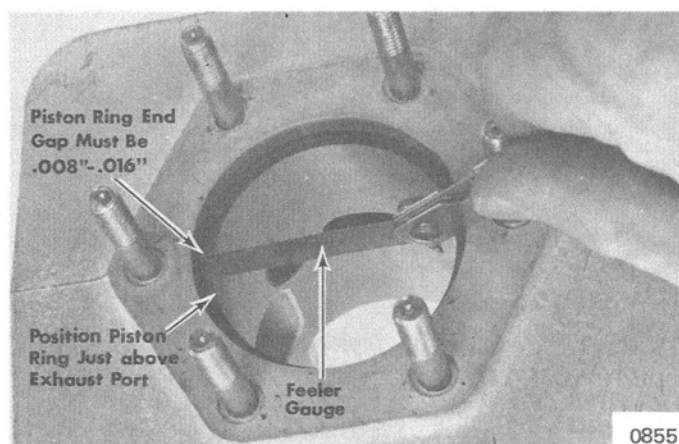

Figure 6. Checking Piston Ring End Gap
2. Check end gap of each piston ring with a feeler gauge. (Figure 6) The end gap must be within .008"-.016" (.20mm-.41mm). If end gap is in excess of these tolerances, check other new piston rings in cylinder bore until one within tolerance is found.
2. Position each piston on its connecting rod with arrow on dome of piston (Figure 6 in "Engine Disassembly", preceding) toward exhaust port side of engine.